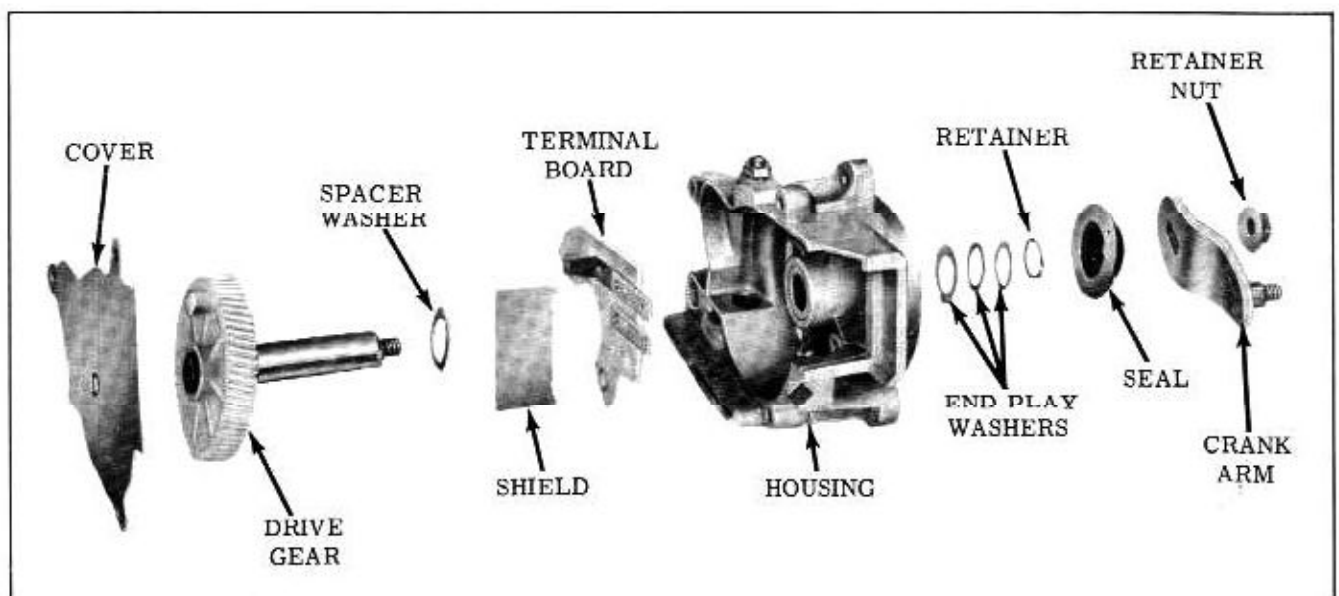

Fig. 13-119 Gear Box Assembly
6. Pull gear and shaft from housing. (Fig. 13-119)